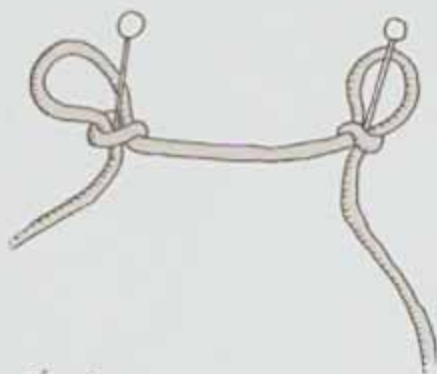

Fig. 1
1. Make a tight **SLK** (Slip Knot) approx. 3" from one end of the Color B cord and pin through the knot onto your board at a comfortable level for knotting. Tape the short loose tail to the left side with masking tape to keep it out of the way for now. Bring the longer tail to the right horizontally. Some people find it helpful to make another **SLK** 3 or 4" from the first one and pin it to the board, creating a loose horizontal "bar," to which you will attach the warp (vertical) cords (see Figure 1). This cord will serve as the **Runner** for the first 2 rows and you will be attaching all of the warp cords onto it.